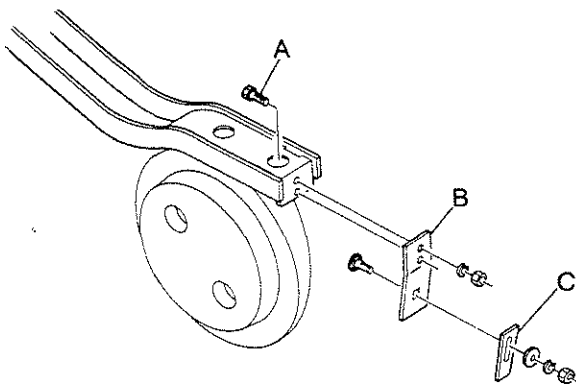

Figure 1
1. Remove 5/16" x 1" long hex bolts (A), washers and hex nuts which hold existing scraper mount (B) in position (see figure 1).
2. Remove inside scraper (C) from scraper mount (B). Scraper mount (B) is no longer needed.